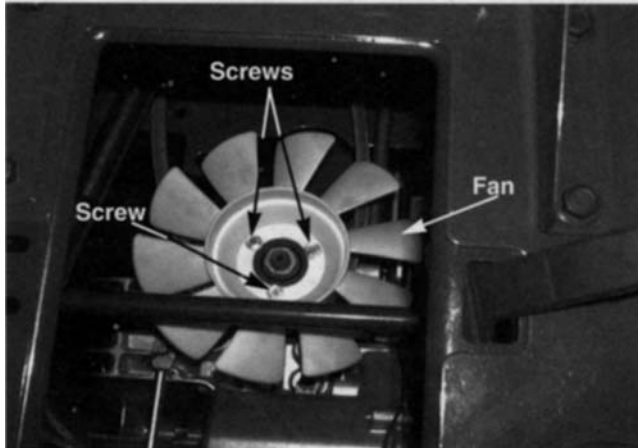

Figure 6-138.
9. Remove all three self tapping screws securing the hydrostatic fan to the hydrostatic drive pulley using a 5/16 socket. See figure 6-138.